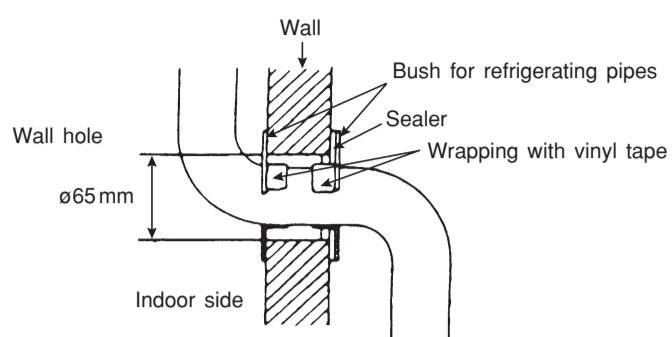

Fig. 7-1
7.2 Arrange the penetrating part of the wall presentably with the bush for refrigerating pipes and sealer which is belonging to the pipe set as shown in Figs. 7-1, 7-2 and 7-3.